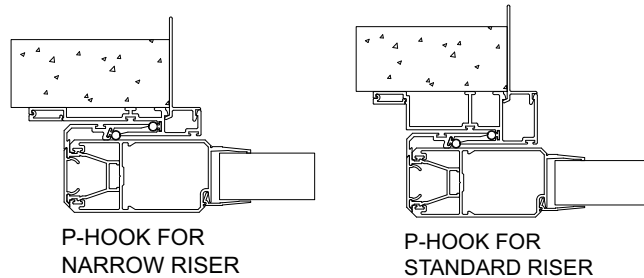

Figure 14
- 11) The P-hook is not notched and sits on top of the sill and just under the header. There are two types of P-hooks, one for the narrow sill riser and one for the box (standard) riser. (See Figure 14)